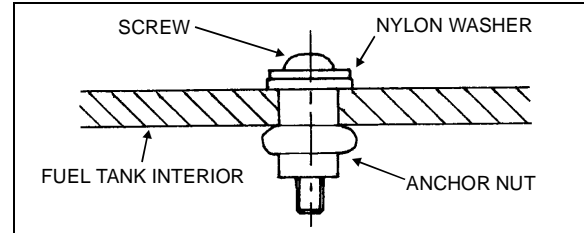

FIGURE 14: FUEL TANK REPAIR
5. Place assembly in drill hole. Tighten screw by 10 complete turns. Refer to Fig. 14.